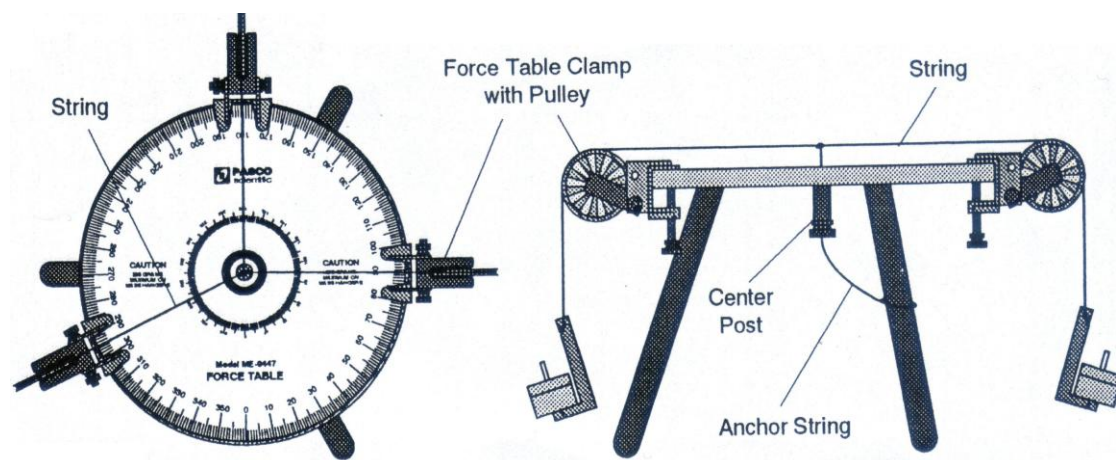

Figure 1.5: Anchor method of stringing force table.
2. See figure 1.5, cut two 60 cm lengths of string and tie them together at their centers. Three of the ends will reach from the center of the table over a pulley; the fourth will be threaded down through the hole in the center post to act as the anchor string. Screw the center post down so it is flush with the top surface of the table. Thread the anchor string down through the hole in the center post and tie that end to one of the legs. Put each of the other strings over a pulley and tie a mass hanger on the end of each string.